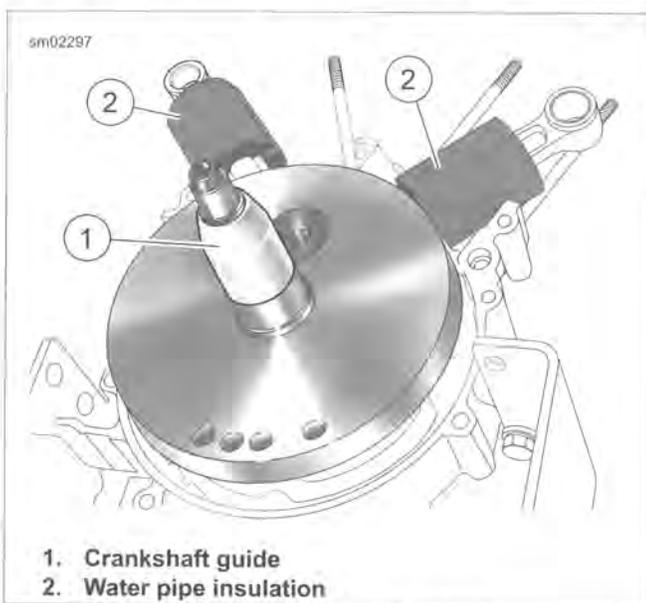

Figure 3-137. Crankshaft Guide
- See Figure 3-137. Place CRANKSHAFT GUIDE (Part No. HD-42326-B) over end of crankshaft until it contacts shoulder on shaft.